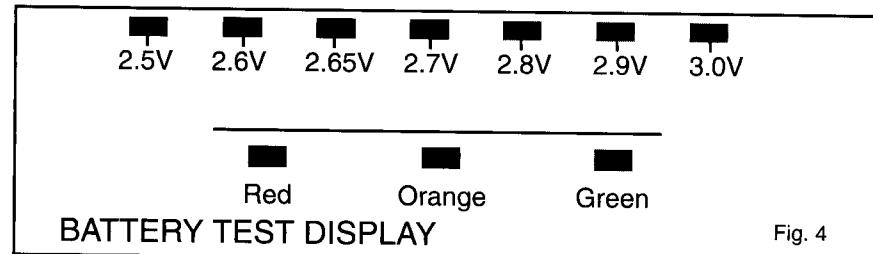

Fig. 4
- **Battery Test Function.** This feature is activated by pressing the Battery Test key. When pressed, the LED's will display a three color bargraph indication of true battery voltage (See Fig. 4). The LED's correspond to voltage as shown in the figure.